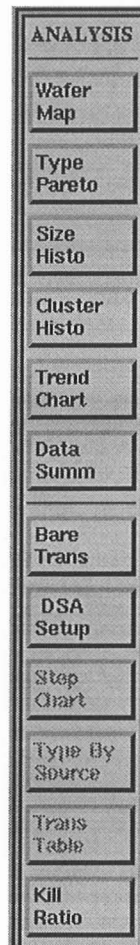

Figure 8-2 Operations Menu Produces Analysis Window
- From the main menu select **Operations**, then select *Analysis*. Click on the *Wafer Map* button—part of the Analysis Window on the left side of the screen (Figure 8-2).